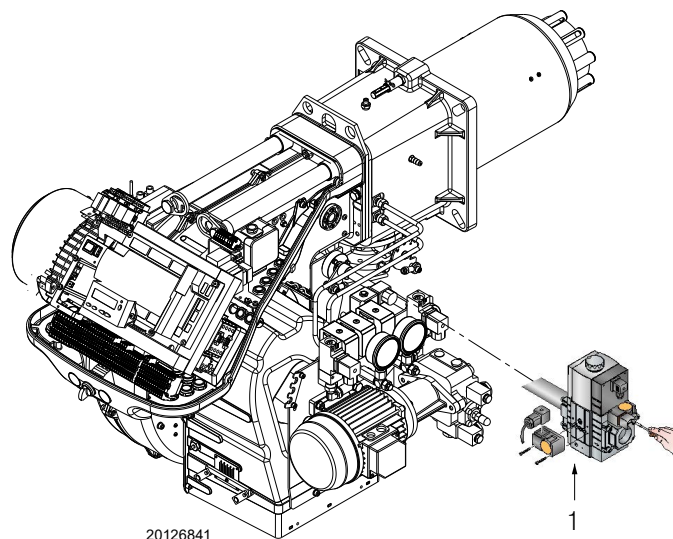

Fig. 35
- Check the gas supply pressure by connecting a pressure gauge to the pressure test point 1)(Fig. 35) of the minimum gas pressure switch: it must be lower than the maximum allowed pressure of the gas train, as shown on the characteristics label.
- Bleed the air from the piping of the gas train, connecting a plastic tube to the pressure test point 1)(Fig. 35) of the minimum gas pressure switch. Take the vent tube outside the building so you can notice the smell of gas.